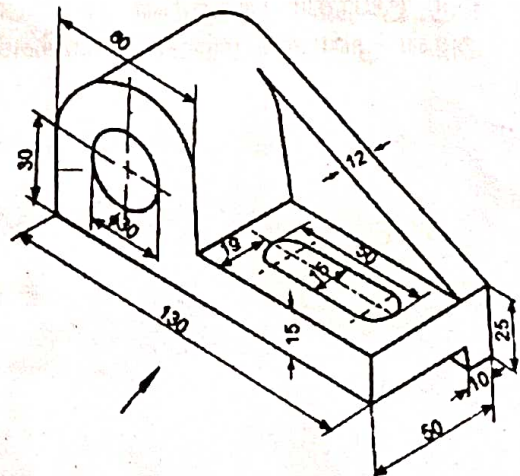

FIG. 4
11. The pictorial view of the machine component is given in fig.4. Draw the front view and top view.